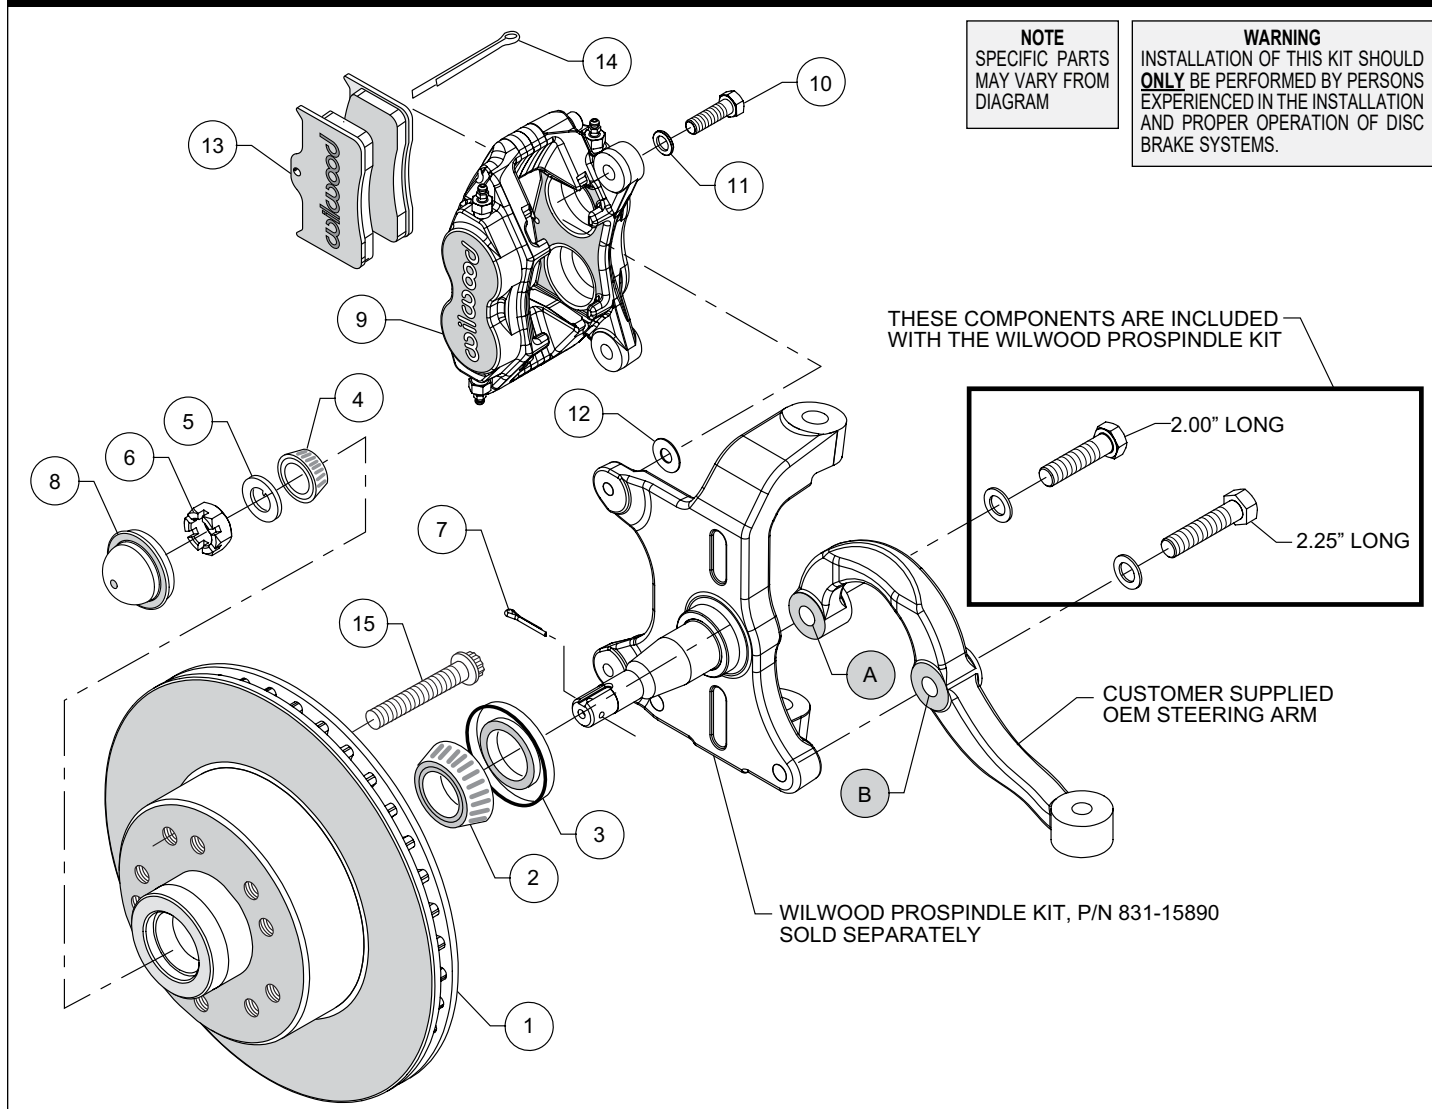

Figure 1. Typical Installation Configuration
NOTE: Numbers in parenthesis refer to the parts list and Figure 1 on the preceding pages.
•**NOTE:** Wilwood's AFX ProSpindle kit includes bolts and washers to mount the steering arm (customer supplied) to the spindle. The various bolts are identified by length in the following instructions and in Figure 1.
•Orient the steering arm, and identify the hole marked "A" as shown in Figure 1. Attach arm to spindle using 2.00" long bolt and washer (from ProSpindle kit), Figure 1. Finish attaching the steering arm through the hole marked "B", using 2.25" long bolt and washer (from ProSpindle kit), Figure 1. Temporarily tighten the mounting bolts. **NOTE:** The steering arm must fit squarely against the mounting points on the spindle. Inspect for interference from casting irregularities, machining ridges, burrs, etc. Remove bolts one at a time, apply red *Loctite*® 271 to threads, and torque to 77 ft-lb.
•Install wheel studs (15) into the hub of the rotor (9), Photo 1. Apply red *Loctite*® 271 to the threads and torque to 77 ft-lbs. **NOTE:** There are two five lug patterns in the hub (5 x 4.50 and 5 x 4.75). Ensure the correct hub stud pattern is being used to fit the wheel application.
•Pack the large inner bearing cone (2) with high temperature disc brake bearing grease (available from your local auto parts store) and install into the backside of the hub/rotor (1), Photo 2.
•Install the grease seal (3) by pressing into the backside of the hub/rotor (1), flush with the end of the hub.
•Pack the small outer bearing cone (4) with high temperature disc brake bearing grease and install into the front side of the hub/rotor (1). Slide the hub/rotor onto the spindle. Secure using spindle washer (5) and spindle nut (6), Photo 3. Bearing adjustment: Tighten the nut while turning the hub. When there is a slight bind on the bearings, they are seated correctly. Back the nut off about 1/6 to 1/4 of a turn, or sufficiently to allow .001" to .007" end play. **WARNING:** Failure to back off adjusting nut could cause bearing to run hot and be damaged, which could cause the wheel to lock or come off. Install new cotter pin (7).
•Press the dust cap (8) into the hub/rotor (1). **NOTE:** Do not hammer center of cap. Install using outer flange only.
•Mount the caliper (9) onto the caliper mounting tabs on the spindle using bolts (10) and washers (11), as shown in Figure 1. Initially place one .035" thick shim (12) on each bolt between the caliper and the mounting tabs on the spindle, Figure 1 and Photo 4. Temporarily tighten the mounting bolts and view the hub/rotor (1) through the top opening of the caliper. The rotor should be centered in the caliper (9), Photo 5. If not, adjust by adding or subtracting shims (12) between the mounting tabs and the caliper. Always use the same amount of shims on each of the two mounting bolts. Once the caliper alignment is correct, remove the bolts one at a time, apply red *Loctite*® 271 to bolt threads, and torque to 40 ft-lb.